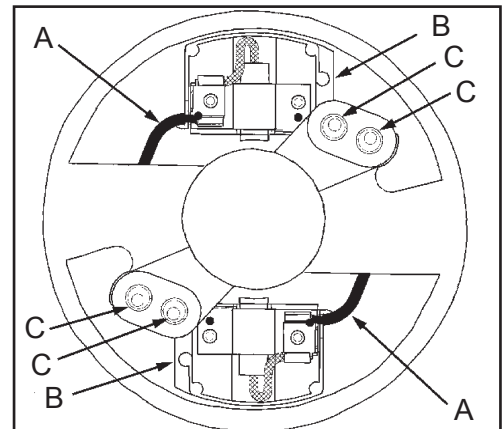

Figure 12
3. To replace the brushes, disconnect the field wire (A) from the brush holder (B). Then remove the two screws and washers (C) securing the holder to the motor housing. See figure 12.